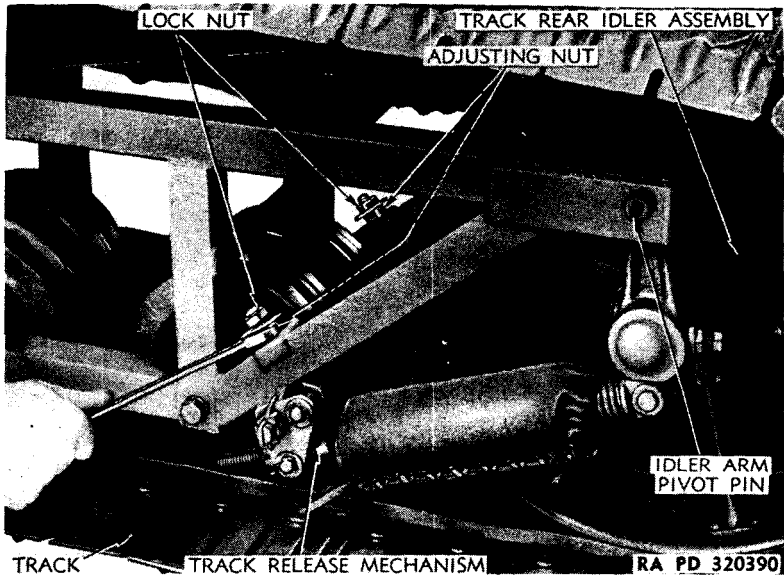
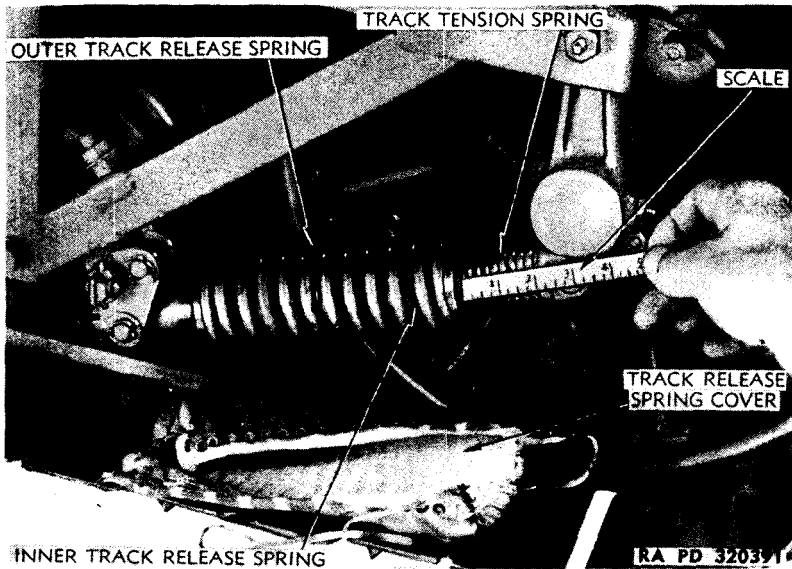
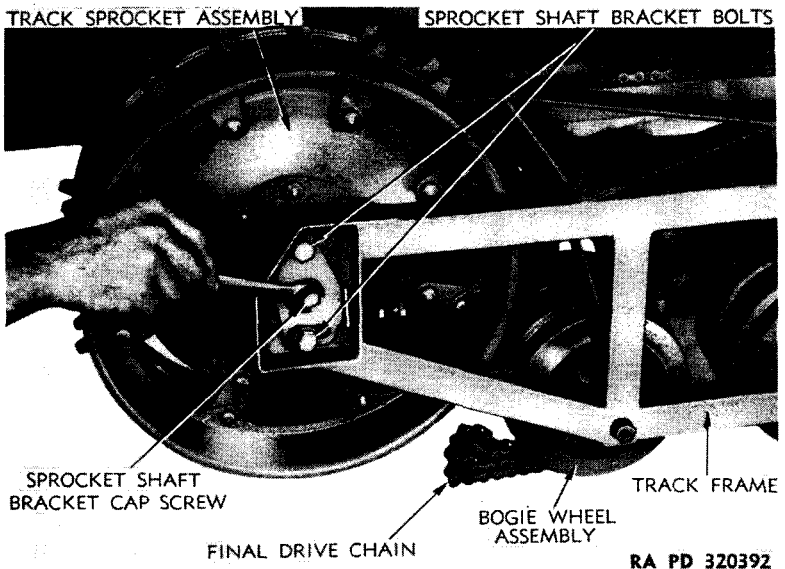

Figure 90—Adjusting Track Tension
Figure 91—Measuring Track Tension Spring
Figure 92—Removing Sprocket Shaft Cap Screw
(1) For most efficient operation, the tracks should be correctly adjusted at all times. The track tension spring (small rear spring) on spring release mechanism maintains the correct track tension when properly adjusted.
(2) Adjust upper adjustment nut by opening nut lock, loosening lock nut, and turning adjustment nut clockwise to shorten track tension spring length, or counterclockwise to lengthen measurement of track tension spring (fig. 90). The correct measurement of length of track tension spring is $2\frac{1}{16}$ inches, measured from track release spring seat to face of plunger, as shown in figure 91. **NOTE:** *The track release spring cover was removed in this illustration to show measurement only, and does not have to be removed to adjust track tension. Rule can be inserted inside end opening of cover.*
(3) As track wears and is readjusted, the track tension adjusting bolt will be raised up against track frame. To restore the adjustment for further use, proceed as follows:
- (1) **REMOVE TRACK ASSEMBLY** (par. 113 c).
- (2) **DISCONNECT FINAL DRIVE CHAIN** (par. 115 c).
(3) **REMOVE TRACK SPROCKET ASSEMBLY.** Remove two bolts and one cap screw from bracket on each end of sprocket shaft (fig. 91). Remove sprocket shaft bracket and spacer assembly from each end of sprocket shaft (fig. 92). Remove track sprocket assembly.